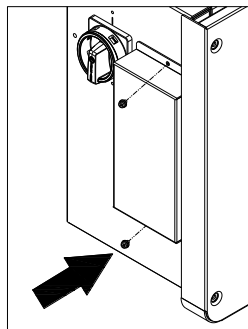

Figure 3-15 Attach the Cover to the left side of the Wiring Box
(d) Figure 3-15). Tool required: No.2 Phillips head screwdriver
Step 8 Figure 3-15). Tool required: No. 2 Phillips head screwdriver, torque value of 1.6N.m (14.2in-lbs)